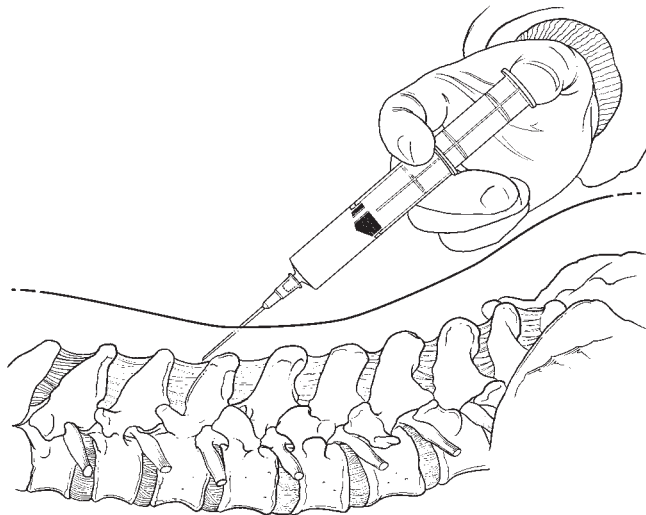

FIGURE 5
- 7 Use an appropriate local anesthetic to anesthetize the skin and subcutaneous tissues at the needle entry site (FIGURE 5).